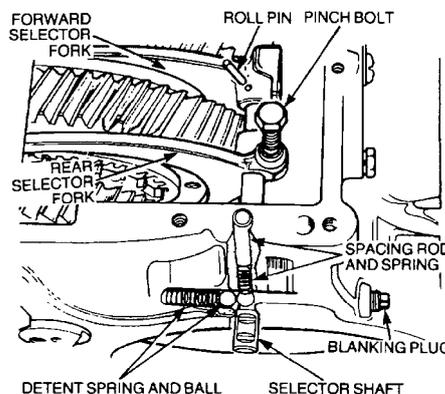

Figure 190 Removing the Transfer Selectors
- cc.** Remove the roll-pin securing the selector fork to the shaft and move the selector to the front of the casing (Figure 190).
- x. Insert the detent spring in the transfer case drilling, install the detent ball (Figure 190), push the ball against the spring and insert the selector shaft.
- bb. Install the detent ball, spring and spacing rod into the vertical drilling,. Smear a suitable sealing compound on the blanking plug threads and fit the plug in the casing (Figure 190).